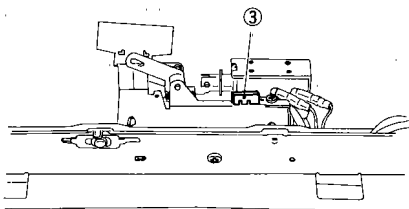

Figure 3-60
- 2) Clean the sensor (S1; ③); see Figure 3-60.